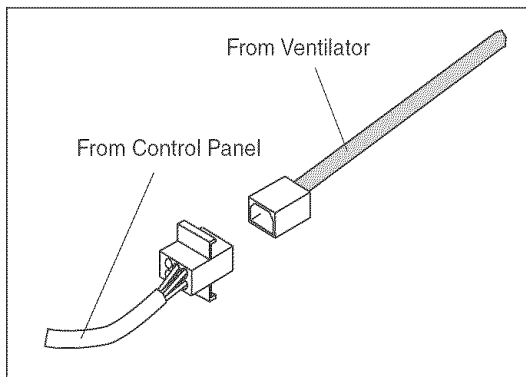

Figure 13
2. Connect the VTN1000Q molex plug connector to the connector present inside the hood as shown in Figure 13.